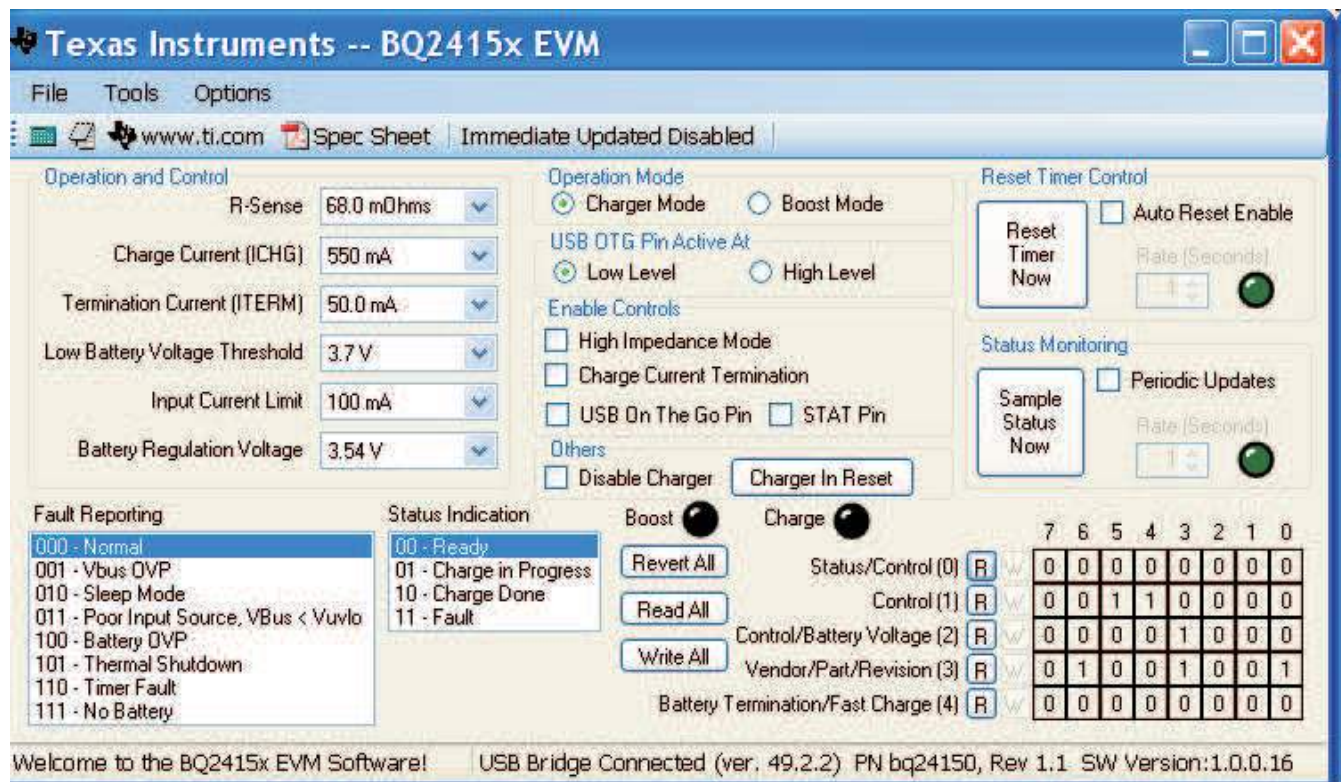

Figure 3. Main Window of the bq2415x Evaluation Software
(H) Turn on the computer. Open the bq2415x evaluation software. The main window of the software is shown in Figure 3.